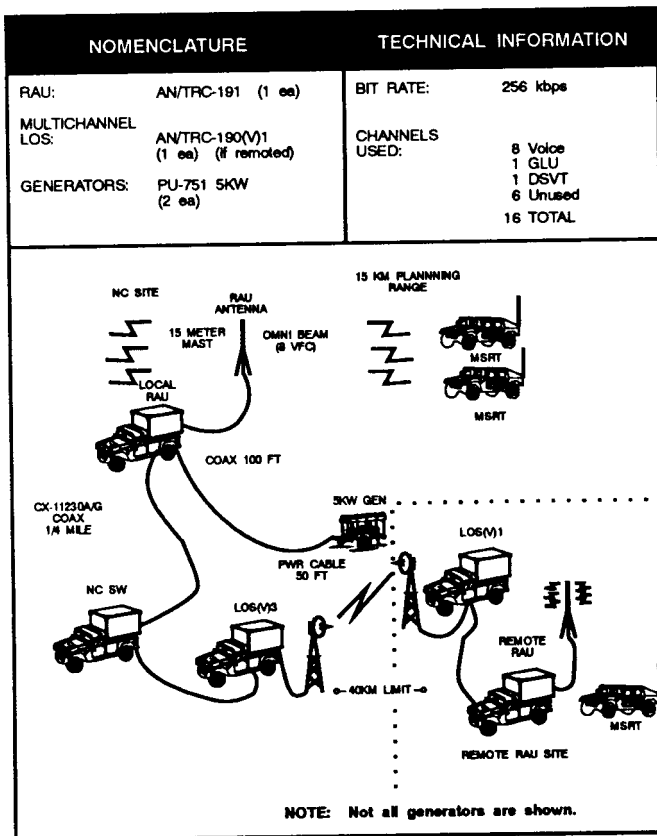

Figure 3-9. Typical RAU configuration.
**Function.** The RAU gives each mobile subscriber secure, wireless access to the ACUS. Subscribers within the RAU's 15-kilometer range use their MSRTs to connect to the MSE network through the RAU. The RAU receives the transmissions and passes them to the NC switch. See Figure 3-9.